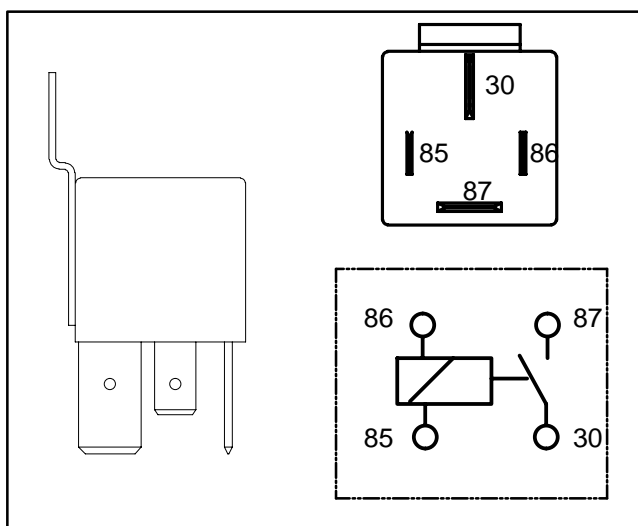

Figure 25
2. Using a multimeter (ohms setting), measure coil resistance between terminals 85 and 86 (Fig. 25). Resistance should be between 70 and 100 ohms.